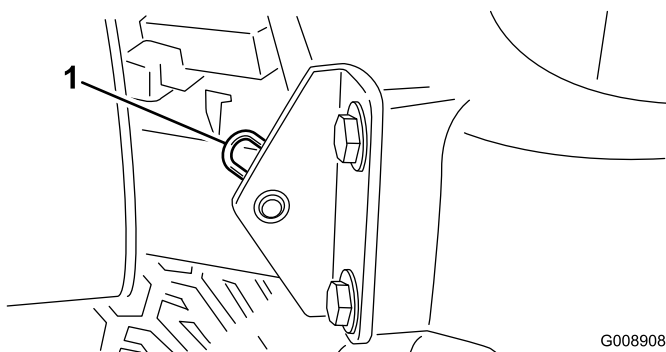

Figure 46
2. Remove the cotter pin that secures the hood pivot to the mounting brackets (Figure 46).